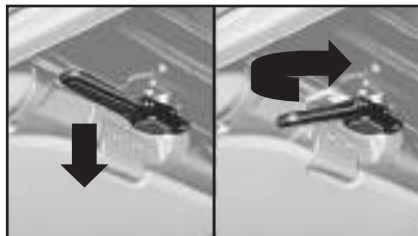

fig. 54
2) Grip the handles, lower them, turn them towards the inside of the car **fig. 54** and raise the front part of the hood from the windscreen transom.